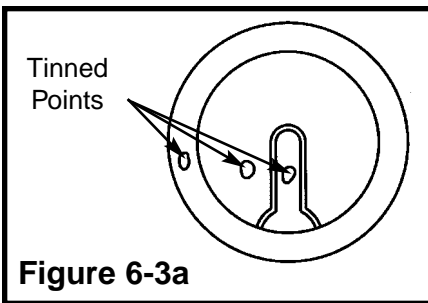

Figure 6-3a
- Tin the buzzer with solder in the locations shown in Figure 6-3a.